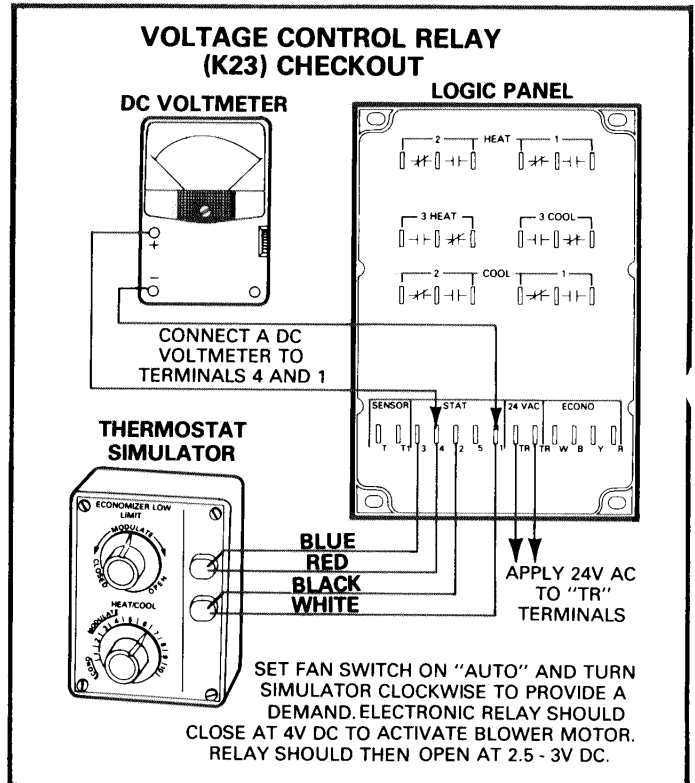

FIGURE 32
- 1 - Connect the simulator as shown in Figure 32. Also connect a DC voltmeter with the positive lead to terminal 4 and negative lead to terminal 1 on logic panel.